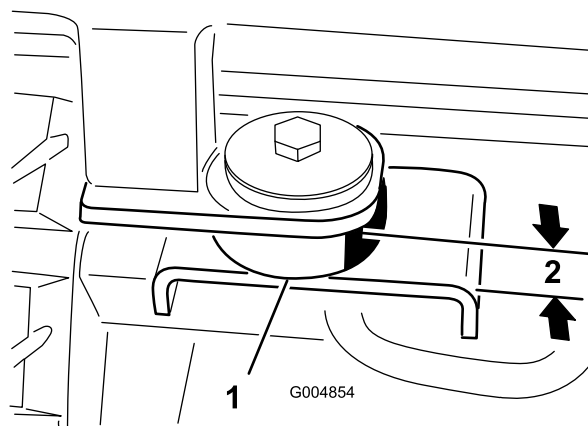

Figure 64
3. Insert a rubber cab mount at the front and rear mounting locations (Figure 64).
5. At each mounting point, secure the cab to the machine with a bolt (1/2 x 3 inches), steel washer (1/2 x 2-1/2 inches), rubber washer (1/2 x 2-1/2 inches) and nut (1/2 inch) (Figure 64). Tighten the